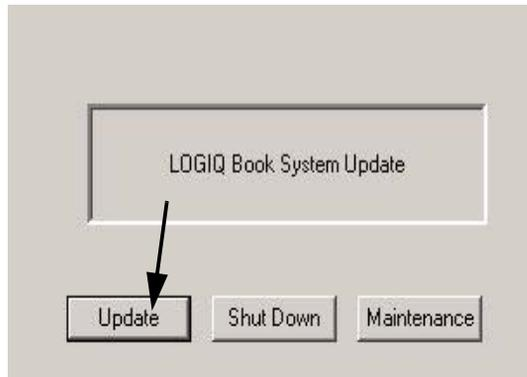

Figure 3-26 Update Wizard
- 6.) You will see System Update Wizard displayed on the screen as shown in Figure 3-26 on page 3-26.